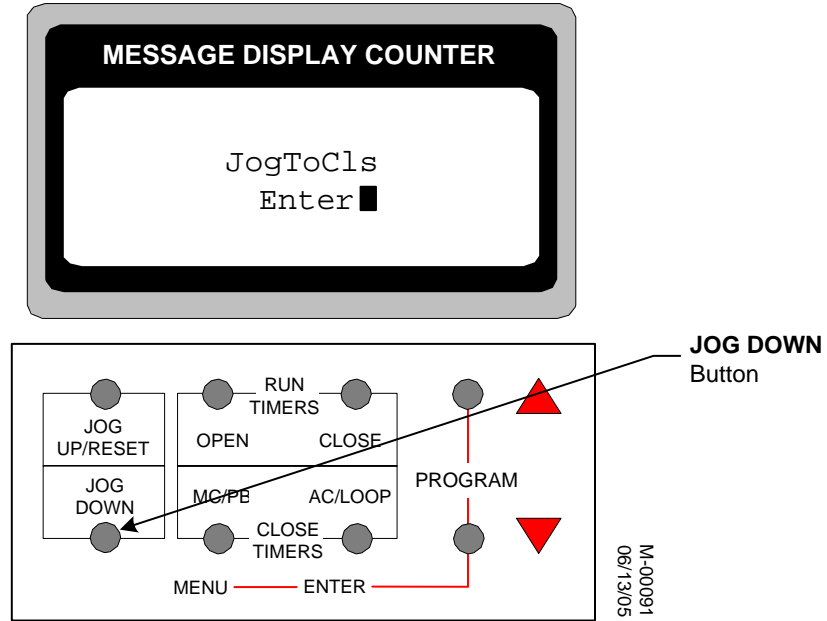

Figure 4-12: JOG DOWN Button
- c. Press the JOG DOWN button to bring the door down to desired close position. See Figure 4-12.